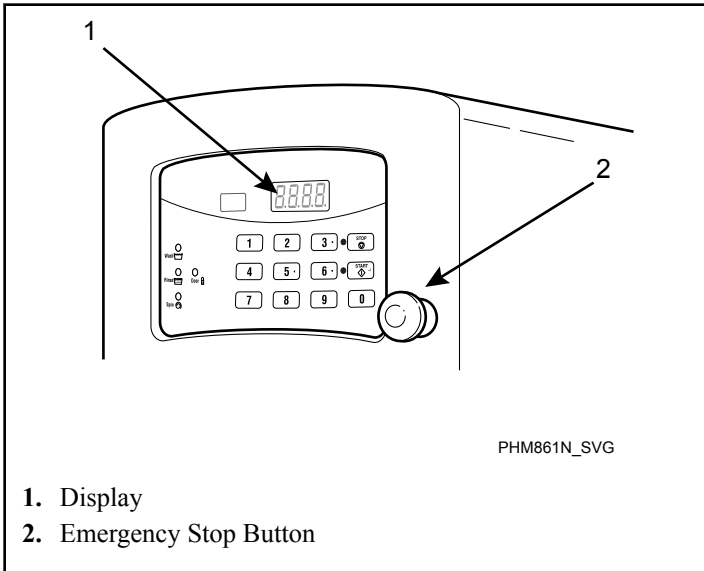

Figure 39
9. Emergency stop button (refer to *Figure 39*) should be depressed to terminate machine operation when any unsafe condition is present during machine operation.